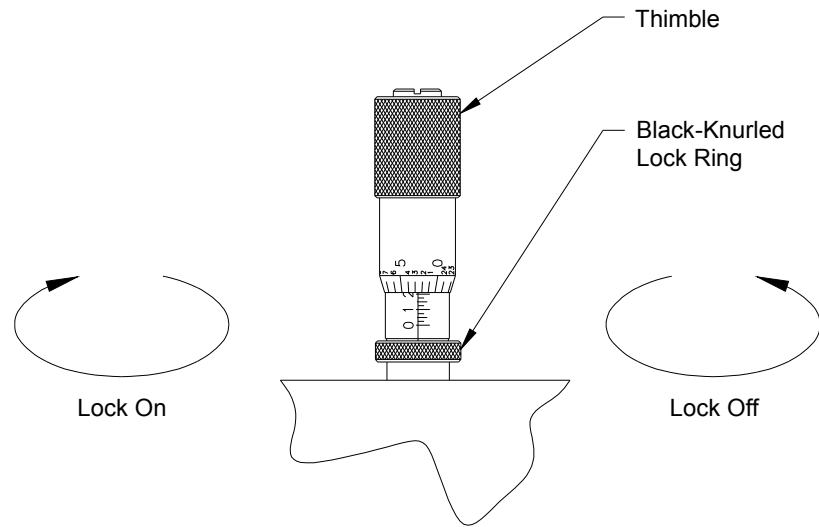

Figure 3. Micrometer Locking Ring Operation
- Micrometer Locking Rings:** Each micrometer has a black knurled locking ring that, when turned clockwise, will lock the micrometer so that it will not easily rotate. This ring must be unlocked (turned counterclockwise) before the micrometer is rotated or the tuner may be damaged. With the ring in the unlocked position, the micrometer thimble will turn easily with little or no resistance. This allows the user to feel the mechanical stops and avoid applying undue rotational pressure. Please see Figure 3 for an illustration of the micrometer locking ring operation.
6. **Battery Compartment Cover and Battery:** This cover slides down so that the battery that powers the digital scale read out can be changed. The battery should be replaced only with an SR44 button-type silver oxide cell, or its direct equivalent. This is a common battery often used for watches and can be purchased at many stores. It should be installed with its positive side facing up. After battery replacement, the digital scale origin can be restored by moving the carriage (item 10) fully to the left, and then holding the Origin switch (item 16) down for more than one second. When the digital display (item 14) shows the letter "B" in the display the battery voltage is low and the battery should be replaced as soon as possible. Under normal use (turned off when not in use) the battery should last about three years.
10. **Tuner Carriage:** The tuner carriage can be moved left and right along the transmission line to vary the phase of the reflected signal. Before moving the carriage, the carriage lock (item 11) must be released by pushing the knurled knob to the left (turning it clockwise when viewed from the top). The carriage will need to be moved nearly its full length to make a complete 360 degree phase rotation at the tuner's lowest operating frequency. At higher frequencies the carriage will need to be moved only a small amount to cover all phase angles, and can achieve a required phase at multiple carriage positions. For maximum matching range, the carriage should generally be positioned at the point that gives the desired response that is as close to the part to be matched as possible.
14. **Digital Scale Display:** This window will display the position of the carriage along the transmission line in either inches or millimeters. It can read absolute position from the left side of the scale, or relative position from any chosen carriage position (see description for item 12). The letter "B" is displayed when the battery is weak.